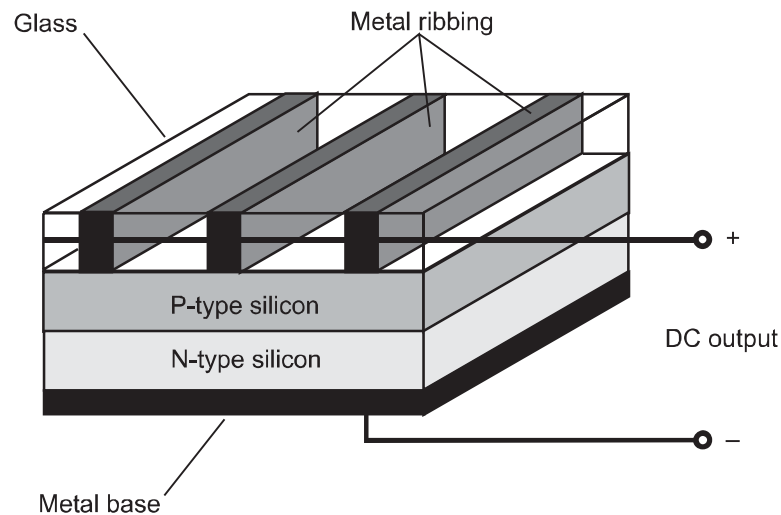

Fig. 5-15. Simplified view of the construction of a photovoltaic (PV) cell.
Photovoltaic (PV) cells have large P-N junction surface area (Fig. 5-15). This maximizes the amount of energy that can strike the junction. A single